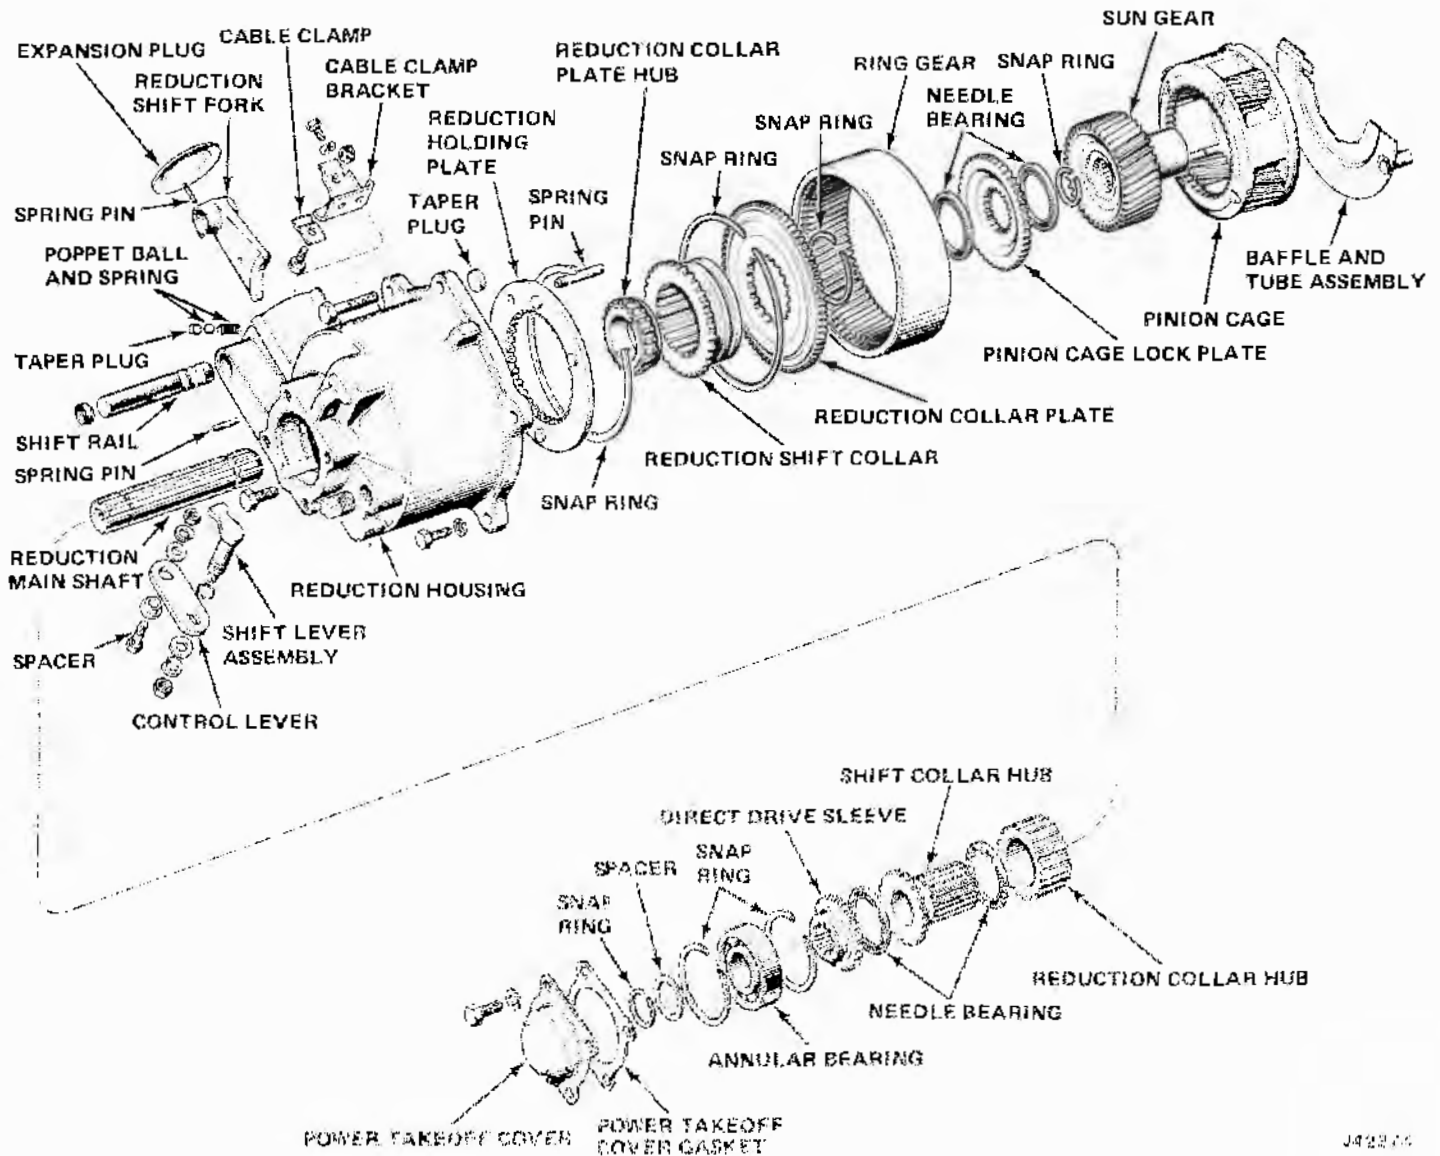

Fig. 8-23 Reduction Unit Components
(1) Remove power takeoff cover and gasket (fig. 8-23).